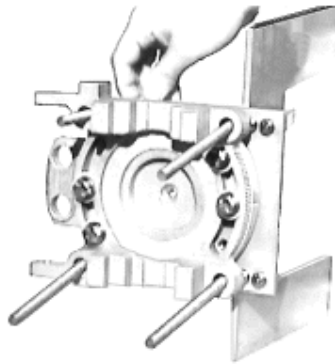

Figure 4-14: Inserting the Remaining Mounting Bracket Bolts
13. Insert the remaining mounting bracket bolts into the elevation plates as shown in Figure 4-14.
9. Insert the remaining mounting bracket bolts into the elevation plates as shown in Figure 4-14.